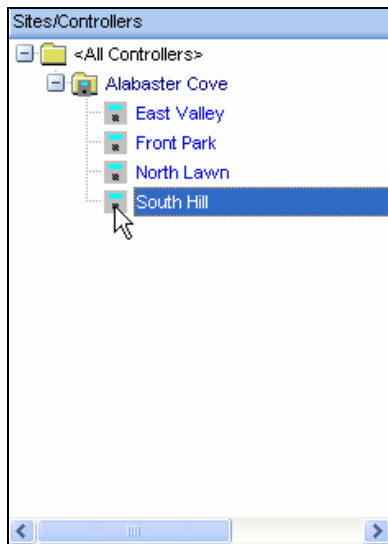

Figure 12.2.4
- Now you want to add the controller(s) that you want to share the weather information with. Select the controller(s) from the “**Site Controller**” window (Figure 12.2.4).